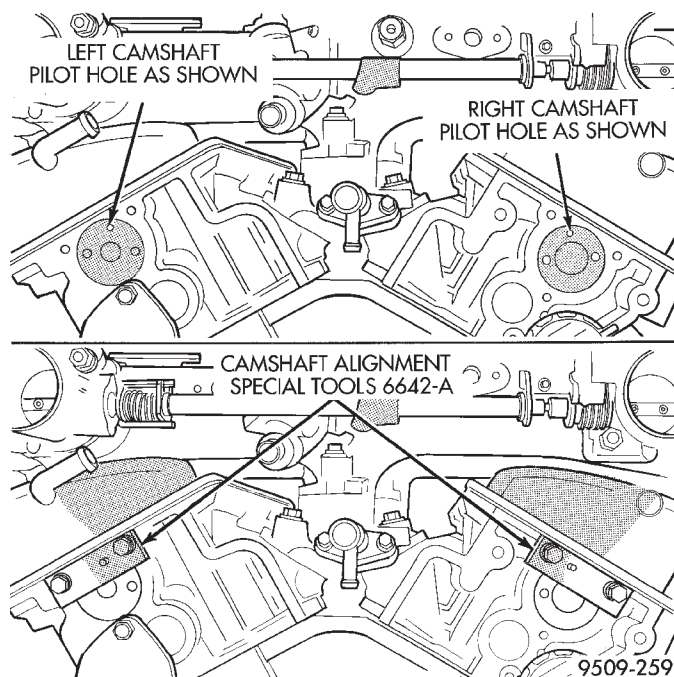

Fig. 13 Camshaft Alignment Special Tools 6642-A
(2) Set the left camshaft pilot hole and the right camshaft pilot hole as shown in (Fig. 13). Install the camshaft alignment Special Tools 6642-A to the rear of the cylinder heads.